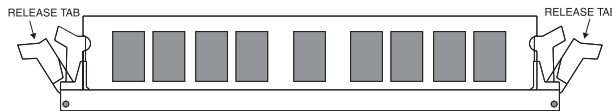

Figure 3-1: Installing a 168-Pin DIMM
1. Hold the SIMM so that the notched edge is aligned with the notch on the SIMM socket (Figure 3-1).